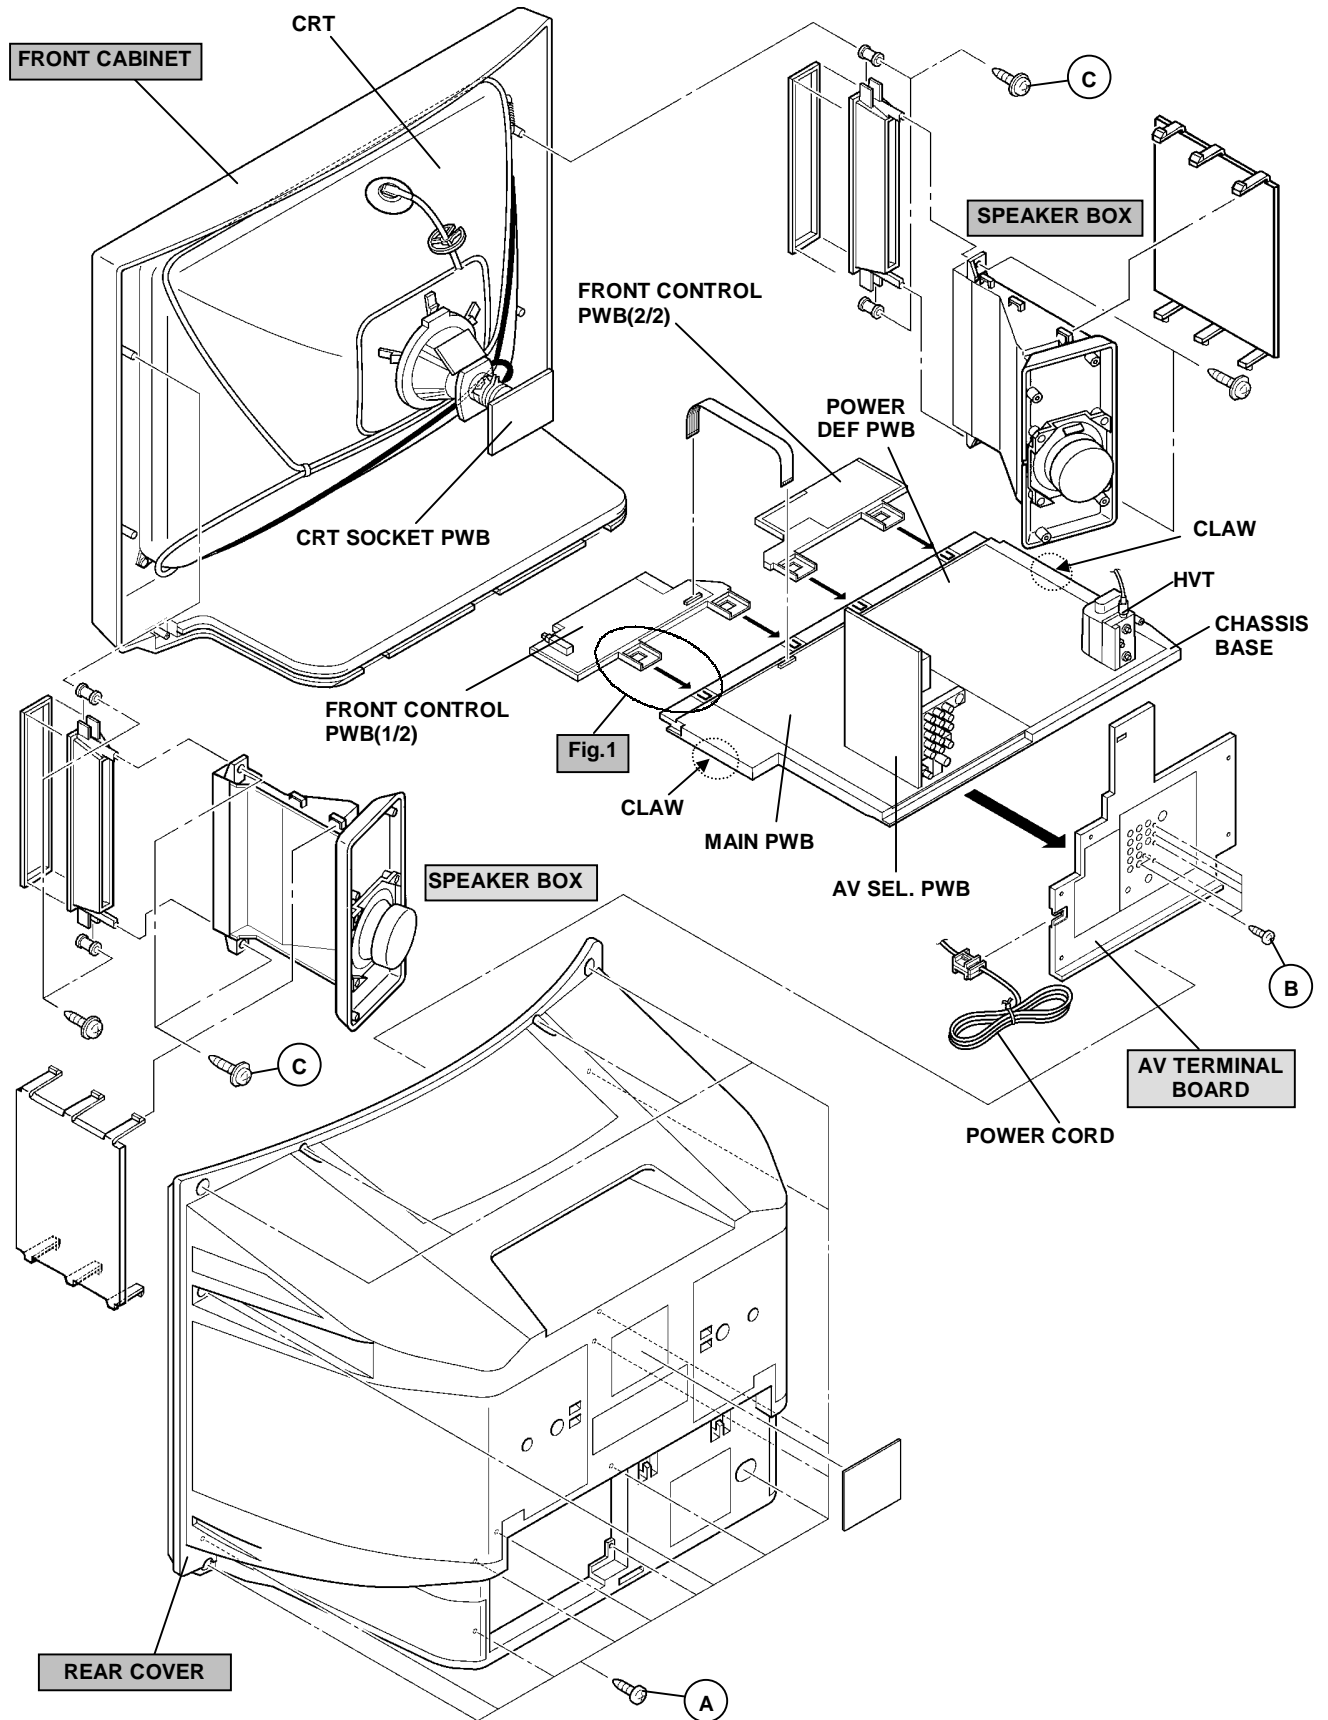

Fig.2
2. As shown in the Fig.2, remove the **16** screws marked **(A)** .
1. As shown in Fig.2, remove the **5** screws marked **(B)** .
1. As shown in Fig. 2, removing the **2** screws marked **(C)** , then remove the speaker box.